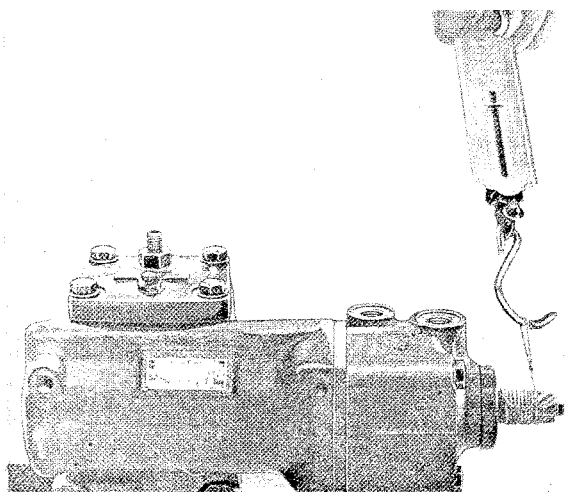

Fig. 6-93. Checking torque
13. Install the needles in the bearing (14). Place the O-ring (15) on the cover. Fit the cover by screwing up the adjustment screw (11) until the cover is in position. For the moment fit a nut (17). Insert the washers (20) and bolts (19). The tightening torque is 31 Nm (3.1 kpm=22 lbft). Fit the protective cover (51).
14. Install the sealing ring (2) with the help of tool 4028. Fit the snap ring (1) in position. Remove the tape.
15. Rotate the steering spindle to one of the end positions. Check the requisite turning torque about 1/2 turn from the end position (Fig. 6-93). Adjust the steering spindle to the middle position. Screw in the adjustment screw (11) so that a noticeable pressure point is obtained. Measure the torque and adjust so that the balance gives a reading of 45–60 N (4.5–6.0 kp=10–13 lb) greater than at the end position, but maximum 185 N (18.5 kp=40 lb).